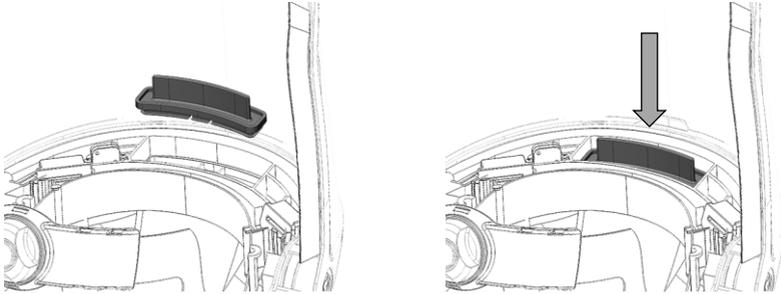
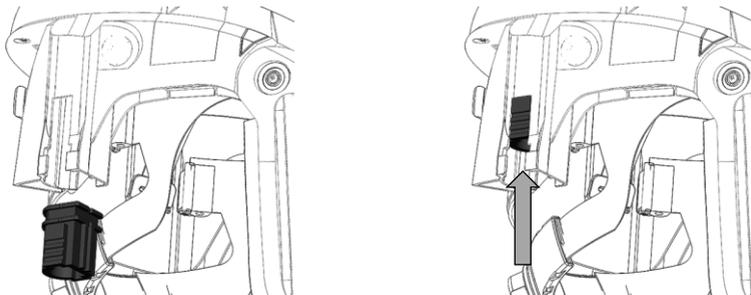

Figure 19
Figure 21
- Before cleaning remove face seal, brow pad, brow seal, crown pad, nape pad, nape spacer, HEPA filter with cover along with the rechargeable battery. Insert provided cleaning plugs as shown at Figure 19 – Figure 21.